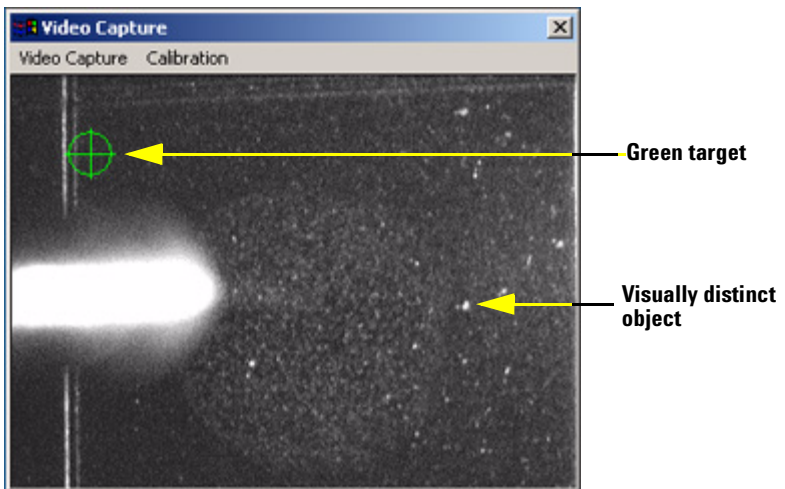

Figure 71 Video Capture screen showing green target and the visually distinct object that was selected
- 3 Locate the visually distinct object in the right-hand quadrant, then drag and drop the green target icon over the object. Click **Next**. See Figures 71 and 72.